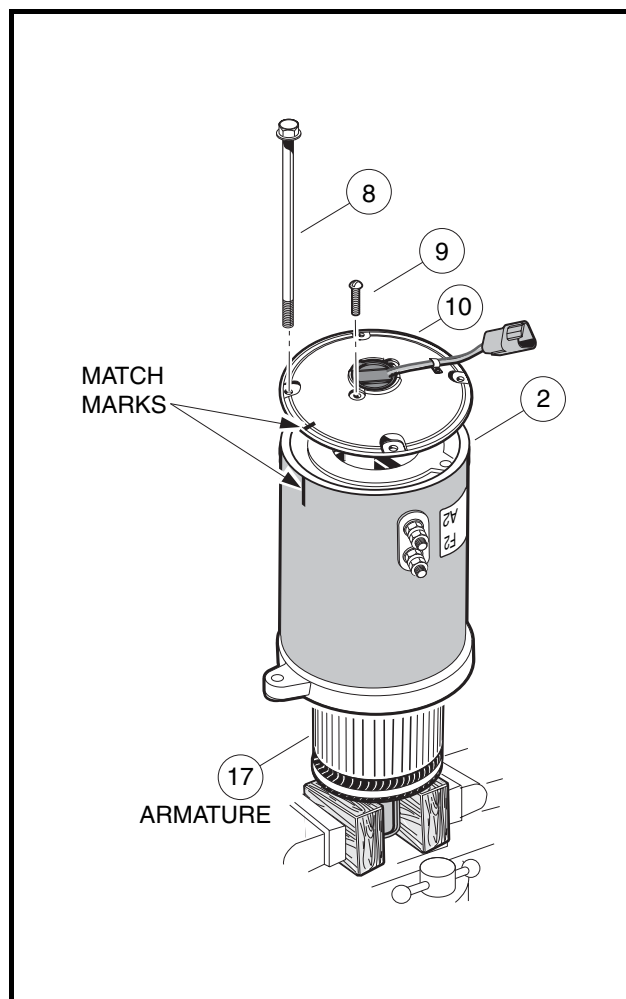
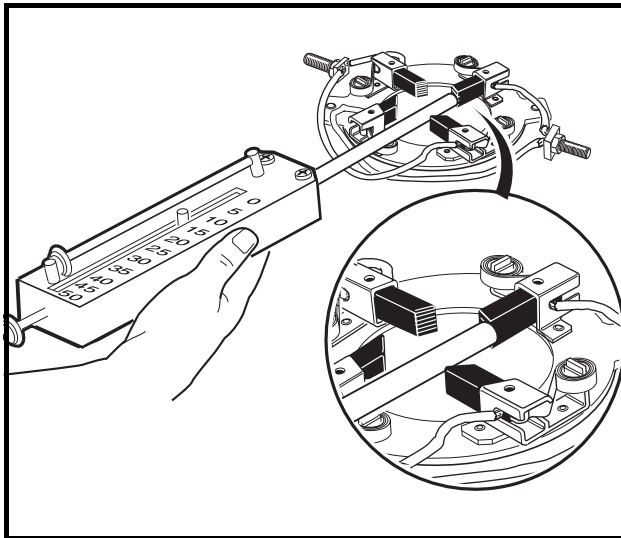
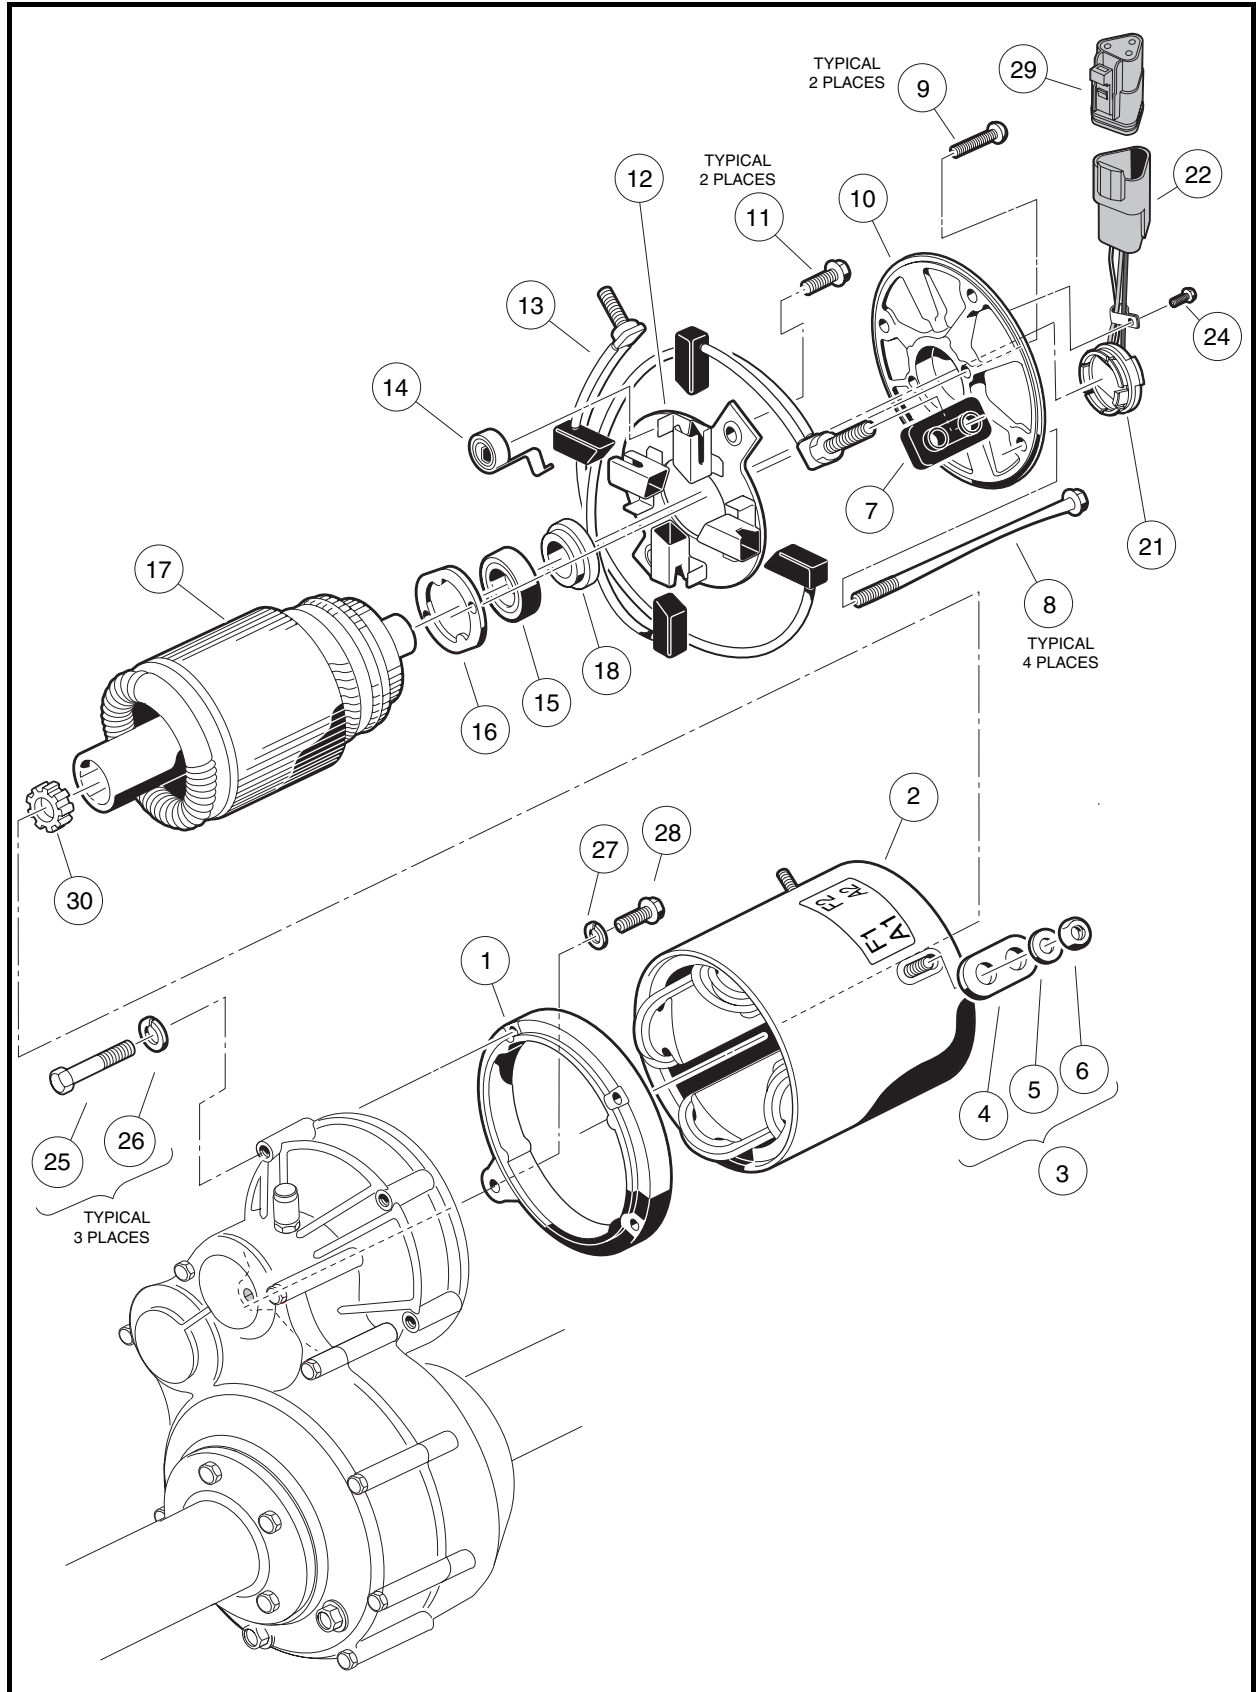
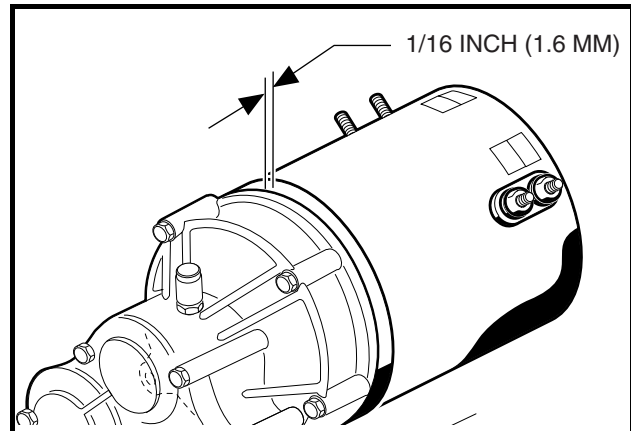

Figure 16-4 Motor Disassembly
Figure 16-7 Brush Spring Tension Test
Figure 16-9 Motor
Figure 16-16 Gap at Motor and Transaxle
- Before beginning disassembly, place match marks on the motor end shield and stator shell, then place the motor in a vice with wooden blocks as shown (**Figure 16-4, Page 16-4**).
- Remove the four bolts (8) securing the end shield (10) to the stator shell (2).
- Remove the two screws (9) attaching the end shield to the bearing retainer.
- Slide the armature (17) out of the opposite end of the stator shell (2).
- Remove two screws (11) attaching brush rigging (12) to the stator shell (2) (**Figure 16-9, Page 16-8**).
- Mark the brush terminal posts (A1 and A2) (13) to identify their positions in the stator shell, then remove the nuts (6) and flat washers (5) (**Figure 16-9, Page 16-8**). From the outside, push the posts through the stator shell wall into the interior of the stator shell.
1. Inspect the insulators (4 and 7) for cracks or other damage (**Figure 16-9, Page 16-8**).
2. Inspect the brushes (13) for damage or excessive wear. Replace brushes if required. **See following NOTE.**
3. Inspect the brush springs (14) (**Figure 16-9, Page 16-8**). Replace springs that are discolored from heat (light gold or blue tinted). Replace springs which apply a force of less than 16 oz. (**Figure 16-7, Page 16-7**). **See following CAUTION and NOTE.**
1. Place the wedge attachment tool (CCI P/N 1012812) between the bearing (15) and the armature (17) (**Figure 16-9, Page 16-8**). Make sure the wedge attachment tool is supporting the inner race of the bearing. If a press is not available, secure a bearing puller (CCI P/N 1012811) to the bearing and pull the bearing off of the end of the armature shaft. Support the shaft so it will not drop when the bearing is removed (**Figure 16-10, Page 16-10**). Discard the bearing and speed sensor magnet. **See following NOTE.**
1. Press a new bearing (15) onto the armature (**Figure 16-9, Page 16-8**). Use an arbor press that exerts pressure on the inner race only. **See following NOTE.**
**NOTE:** Make sure the bearing retainer (16) is positioned on the armature shaft before the bearing is pressed onto the armature (**Figure 16-9, Page 16-8**).
Inspect the speed sensor magnet (18) for rust, wear, and cracks (**Figure 16-9, Page 16-8**). Replace the magnet if necessary.
1. To remove the speed sensor magnet (18), remove the motor bearing (**Figure 16-9, Page 16-8**). See **Bearing Removal on page 16-7**.
- 3.1. Attach the end shield (10) to bearing retainer (16) by aligning the two holes in the bearing retainer with the two mating holes in the end shield and installing the screws (9) (**Figure 16-9, Page 16-8**). Tighten the screws to 17 in-lb (1.9 N·m). **See following NOTE.**
- 3.2. Align the match marks on the end shield and the stator shell, then install the four screws (8) (**Figure 16-9, Page 16-8**). Tighten the screws to 90 in-lb (10 N·m). **See following NOTE.**
- 3.1. With the flat side toward the bottom of the coupling, install the molded bumper (30) into the motor coupling (**Figure 16-9, Page 16-8**). **See following NOTE.**
When the motor is pushed onto the input shaft, the motor adapter ring (1) will not bottom out against the transaxle housing (**Figure 16-9, Page 16-8**). There will be approximately 1/16 inch (1.6 mm) gap between the motor adapter ring and transaxle housing as shown (**Figure 16-16, Page 16-13**).